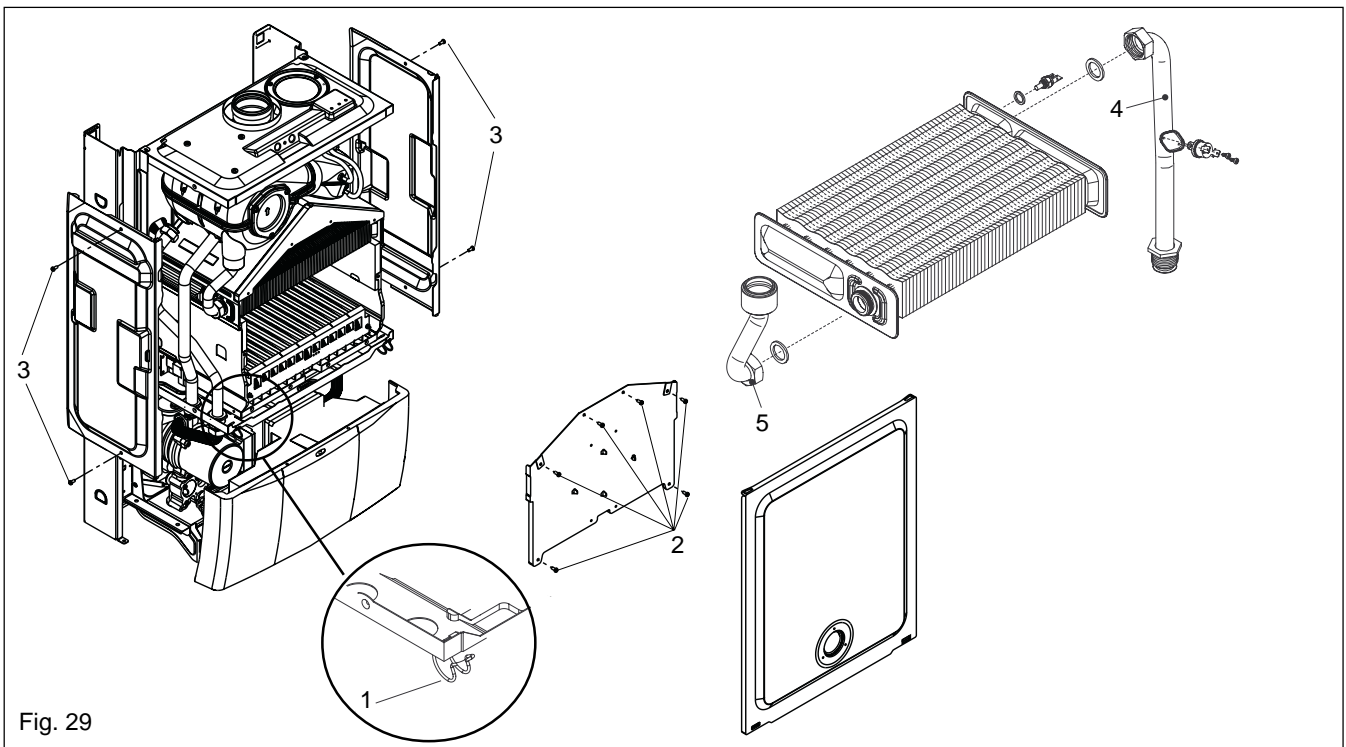

Fig. 29
**Fig. 29:** remove the air chamber side panels if necessary by unscrewing the securing screws (3). Disconnect the flow and return connections (4, 5) on the heat exchanger. The heat exchanger can now be withdrawn from the appliance. Replace in the reverse order. Ensure all seals are in good condition, taking care to ensure they are replaced correctly.